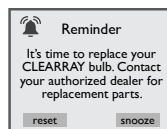

Figure 15.0c
22. CLEARRAY Replacement Reminder: This message will appear when the CLEARRAY bulb reminder time has expired (Figure 15.0c). The CLEARRAY bulb must be replaced.